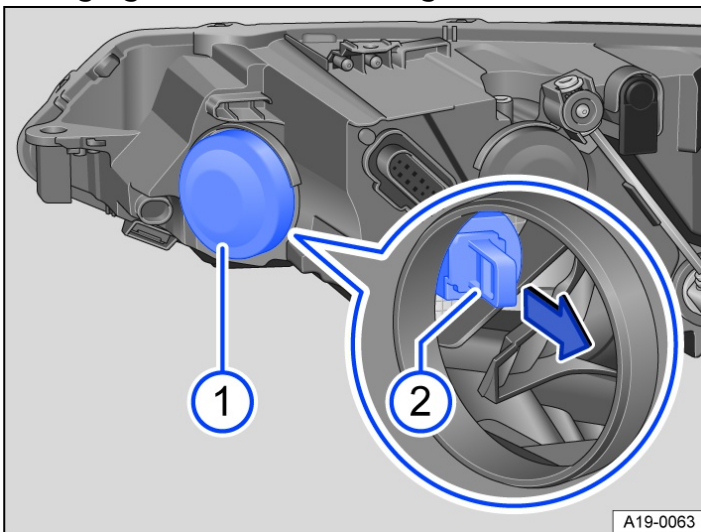

Fig. 1 In the engine compartment on the right: rear of the headlight.
- ① Turn signal bulb holder cover.
- ② Turn signal bulb holder.
1. Pull off rubber cover → Fig. 1 ①.
2. Pull out bulb holder by the handle in the direction of the arrow → Fig. 1 ②. When doing this, alternately press the handle up and down slightly to make it easier to pull out the bulb holder.
4. Carefully insert the bulb holder into the headlight and push it towards the front until you feel it click into place → Fig. 1 ②.